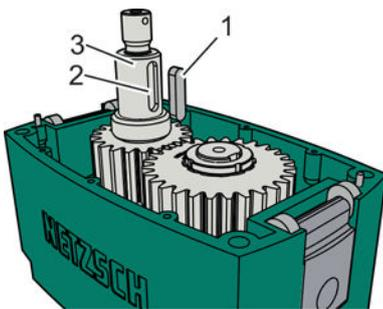

Fig. 95: Removing the key from the coupling half
- 7. ➔ Remove the key (Fig. 95/1) from the keyway (Fig. 95/2) of the drive shaft (Fig. 95/3) and place to the side.